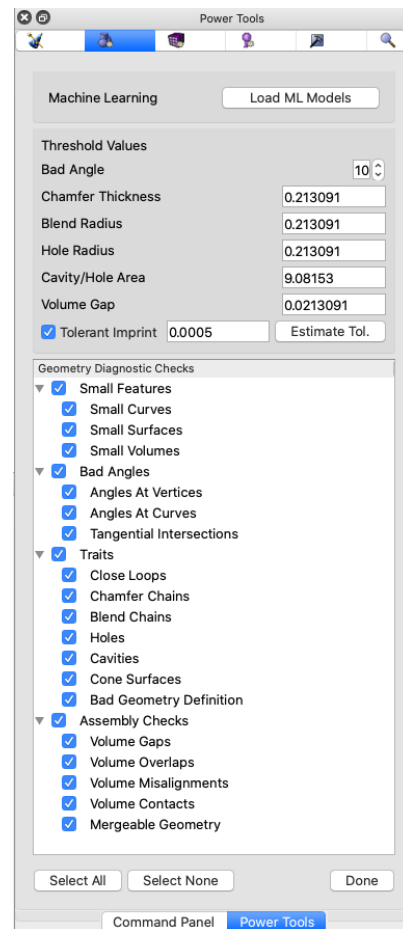

Figure 2. Geometry power tools options panel
3. **Select diagnostics to perform:** Selecting the **Options...** button will display a list of available diagnostics grouped by category, as shown in Figure 2. By default all diagnostics are selected. Some diagnostics may not apply to specific geometry, or may only need to be run once per geometry. To avoid long analysis times, select only diagnostics that are relevant for your current problem scope. Clicking on the box by each test will select or deselect it. Categories of diagnostics may also be selected or deselected in a similar manner. All diagnostics may be selected or deselected using the **Select All** and **Select None** buttons at the bottom of the panel. Threshold values used for some of the diagnostics can also be entered, including bad angle, chamfer thickness, blend or hole radius, cavity area and volume gap thresholds. Details on each of the diagnostics are described below. Select the **Done** button to return to the main Geometry power tool panel.